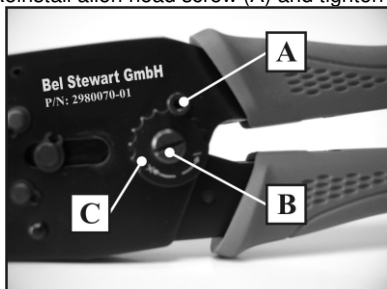

Fig.7.
- ❑ Using small screwdriver or similar tool, push the ratchet relief (A), located inside the moving handle, (Fig. 7.) in direction as shown to unblock the tool, and remove obstruction before continuing with the work.